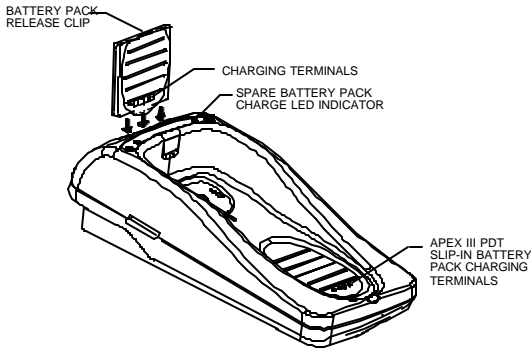

Figure 7: Battery Pack Orientation
- To use the spare charging slot, insert an Apex III Battery Pack into the charging slot on the top rear of the Apex III Dock (refer to Figure 7 and below Note).
Note: The Battery Pack must be placed in the charging slot with Release Clip facing upwards and the four side charging terminals (and ridges) facing towards the front of the Dock (refer to Figure 7).
10. Keep the installed Apex III PDT Battery Pack fully charged by placing the Apex III PDT into the Dock and allow the unit to move to the foremost (slip-in) position (see Dock Operation). The Apex III charging terminals (on rear of the unit) will automatically align with the slip-in charging terminals on the Dock (see Figure 7).